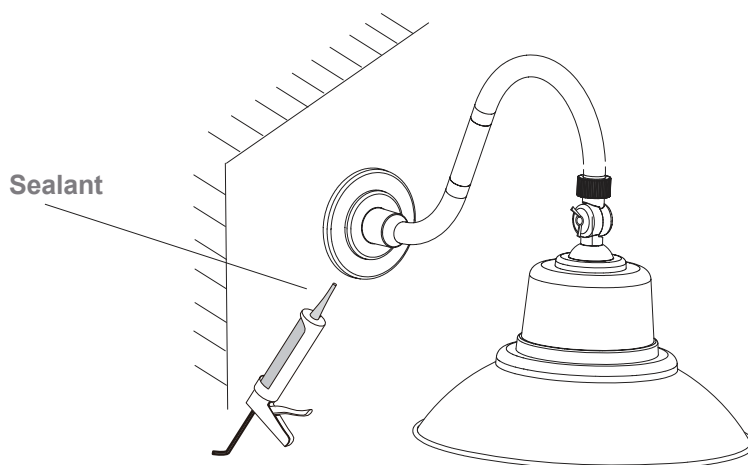

Figure 4
7. For additional sealant, apply waterproof silicone to the gap between the wall canopy and wall. (Figure 4)